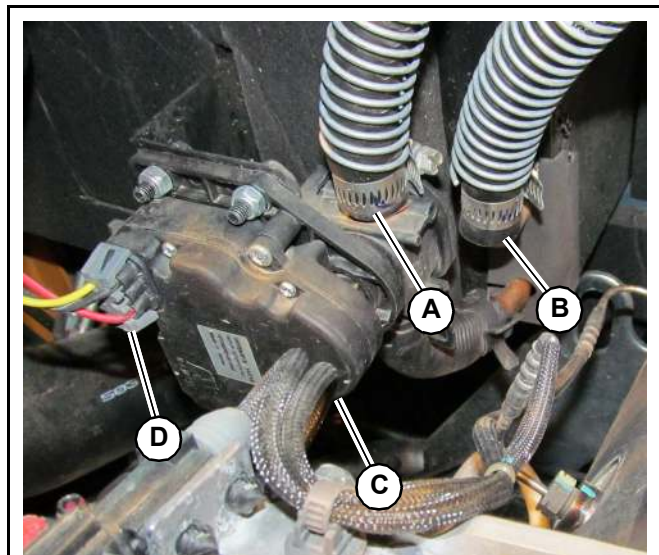

Fig. 242 – Heater Control Valve
7. Loosen hose clamps and disconnect heater hoses (A and B, Fig. 242) from the heater control valve (C). Cap and plug hoses and valve openings to prevent contamination entering cooling system.